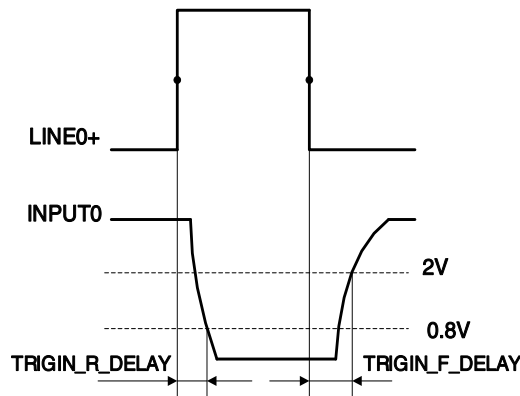

Figure 7-4 Parameter of opto-isolated input circuit
- Rising edge delay: $< 50\mu\text{s}$ ($0^\circ\text{C} \sim 45^\circ\text{C}$), parameter description as shown in Figure 7-4
- Falling edge delay: $< 50\mu\text{s}$ ($0^\circ\text{C} \sim 45^\circ\text{C}$), parameter description as shown in Figure 7-4